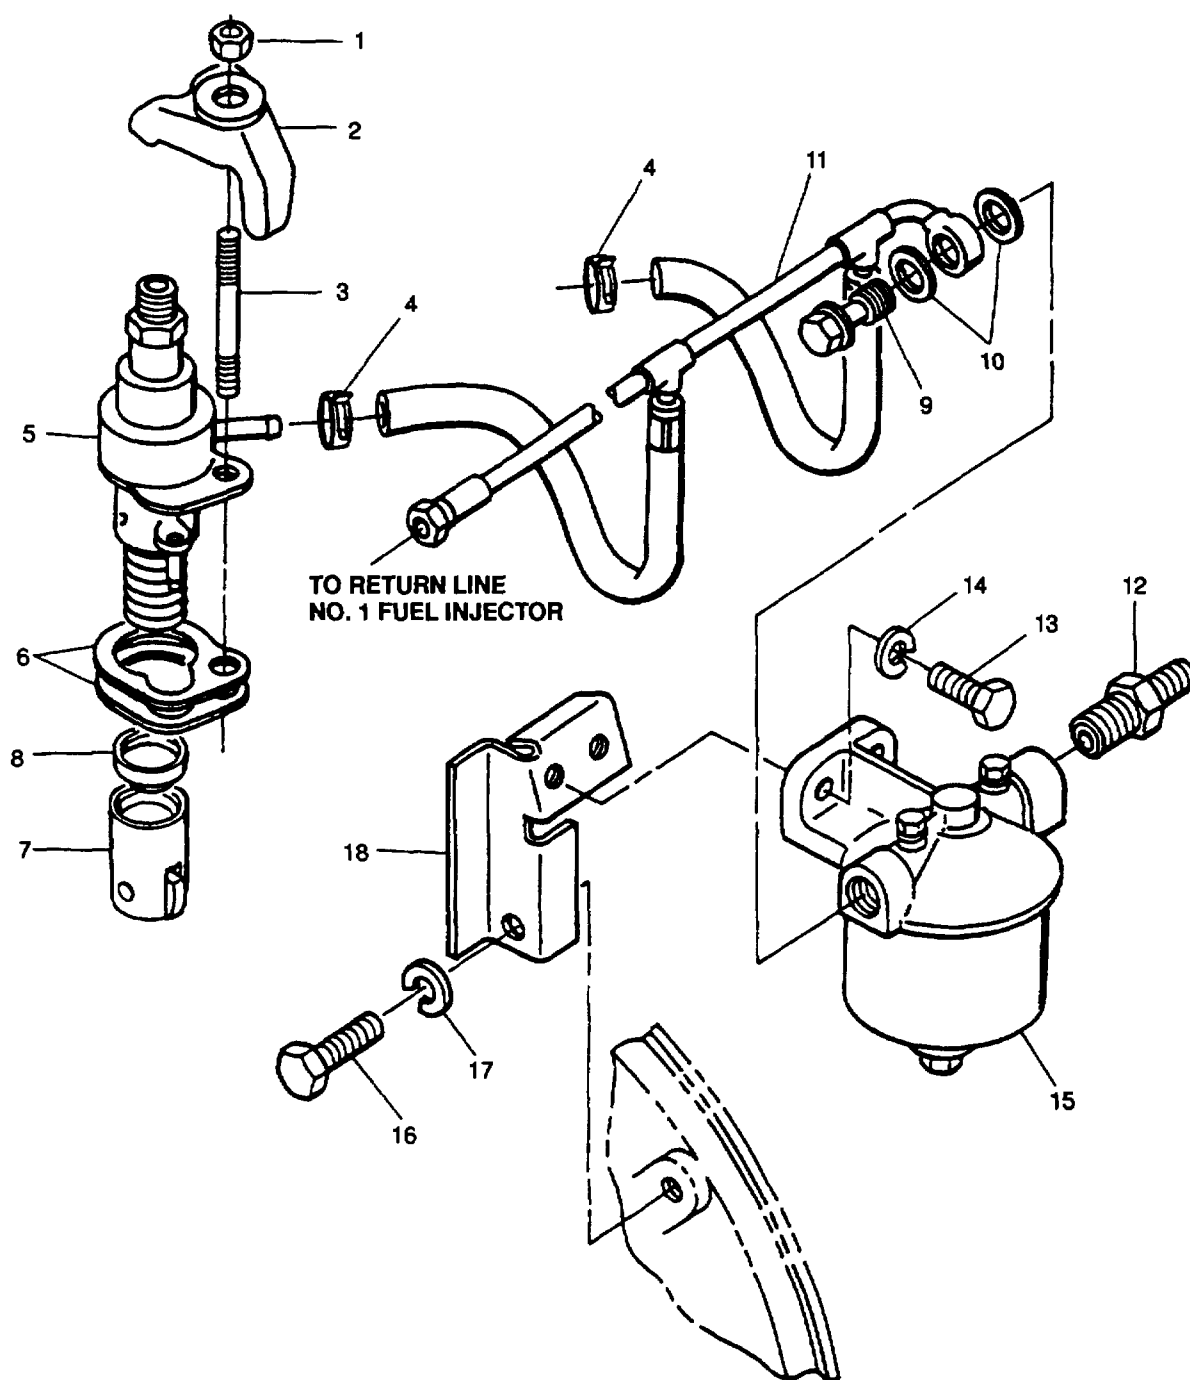
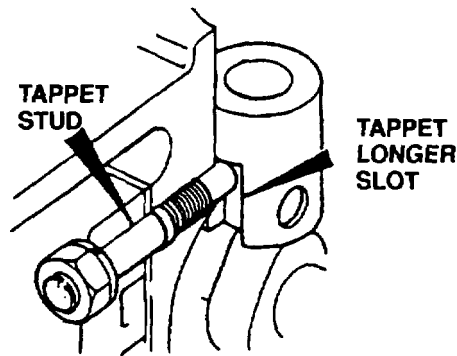

FIGURE 3-7. Fuel Injection Pump, Fuel Filter, and Supply Lines
FIGURE 3-8. Fuel Pump Tappet and Stud
- a. Loosen damp (4, FIGURE 3-7) and disconnect fuel supply line (11) from fuel injector pump (5).
- c. Remove fuel injector pipe between pump (5, FIGURE 3-7) and fuel injector. Refer to paragraph 3-18.
- e. Remove nut (1) and damp (2) securing fuel injection pump (5).
- f. Lift fuel injection pump (5) out of crankcase and remove shim pack (6). Tag them as to which cylinder they came from.
- g. If necessary, remove thrust cup (8) and tappet (7) from crankcase using magnetic pick-up. Tag them as to which cylinder they came from.
- h. If damaged, remove stud (3).
- c. If tappet (7, FIGURE 3-7) and thrust cup (8) were removed, install them as follows:
- (1) Tappet is installed in crankcase using long nosed pliers held open against top inside edge of tappet recess.
- (2) Submerge tappet in dean engine lubricating oil (MIL-L-2104).
- (3) Insert tappet in crankcase with longer slot facing outward to ensure it is correctly located over tappet stud. Refer to FIGURE 3-8. Install thrust cup (8, FIGURE 3-7).
- g. If removed, install stud (3, FIGURE 3-7).
- h. Install correct original shim pack (6) on fuel pump (5).
- (1) Do not remove or add to original shims installed between pump flange and steel plate.
- (2) Use extreme care to ensure that individual shim packs are installed between each fuel pump plate and crankcase and that they are retained with their original respective cylinder.
- (3) Shims are available in three sizes and are color coded. Refer to TABLE 3-3.
- a. Loosen clamps (4, FIGURE 3-7) and disconnect supply hoses of fuel line (11) from fuel injection pumps (5).
- b. Disconnect fuel return hose from fuel supply line (11).
- c. Remove swivel union plug (9) securing fuel line (11) to fuel filter (15); remove fuel line (11) and two seals (10). Discard seals (10).
- b. Connect fuel line (11, FIGURE 3-7) to fuel filter (15) using two new seals (10) and swivel union plug (9).
- c. Connect supply line (11) hoses to fuel injection pumps (5) and secure with clamps (4).
- d. Connect fuel return line to supply line (11).